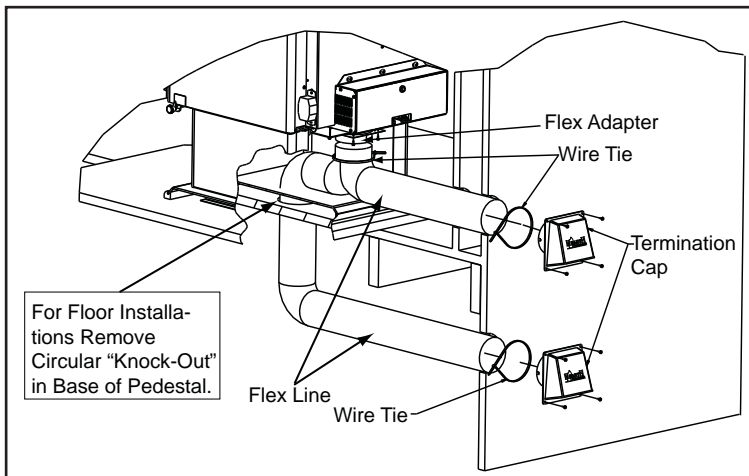
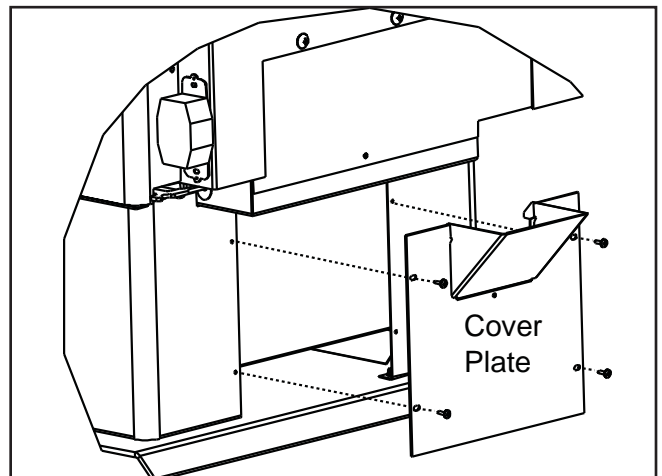

Figure 12.1 - Floor & Rear Installation
Figure 12.2 - Floor Installation Alternative
Included in SRV7033-041: Cover plate and sealing rope (see Floor Installation Alternative below, **Figure 12.2**)
2. Using a #2 Phillips screw driver attach the flex adapter to the stove using 4 screws. **Figure 12.1.**
3. For floor installations, remove circular “knock-out” in the base of the pedestal. **Figure 12.1.**
5. **Floor Installation Alternative:** In some instances you may not be able to install the flex pipe as show in **Figure 12.1.** If that is the case, you will need to order SRV7033-041 which includes a cover plate and sealing rope as shown in **Figure 12.2.** The goal is to seal the pedestal so no room air can leak into the pedestal and to seal or for cold air infiltration.